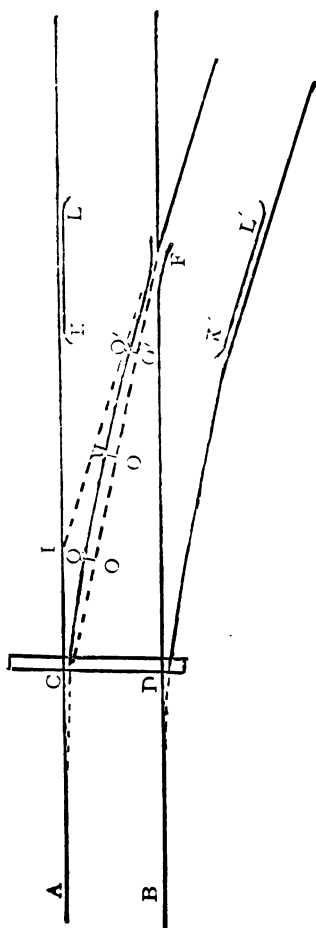
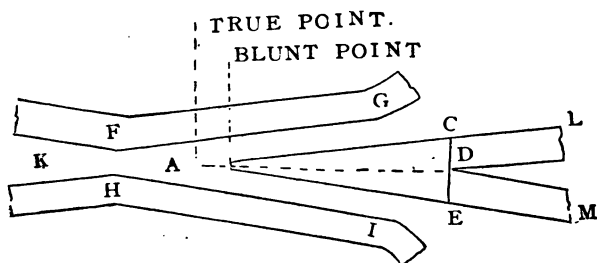

Fig. 8.
Fig. 11.
- 1, TURNOUTS, Fig. 8—2, Laying Switches—3, Split or Point Switches, Figs. 9 and 10—4, To Change a Stub to a Split Switch—5, Description and Table 1—6, Description and Table 2—7, Frogs, Fig. 11—8, Laying Frogs in Track—9, Length of Frogs—10, Guard Rails—11, If there is no Standard—12, Switch Timbers—13, To Cut Switch Ties the Proper Length—14, Tamping Switch Ties—15, Putting in Three Throw Switches—16, A Derailing of Switch, Fig. 12—17, Turnouts From Curves—18, To Reach a Side Track with a Reverse Curve Behind the Frog, Fig. 13—19, Round House Tracks—20, Another Method—21, Fig. 14, Cross over Tracks—22, Table of Distances Between Frogs in Crossover Tracks—23, Parallel Tracks—24, How to Ascertain the Kind of Frog Needed, Fig. 15—25, Spur Tracks—26, To Straighten Rails in Track.
The common or "stub " switch, consists of a pair of connected rails, A C, and B D, Fig. 8, so arranged that while one end is fixed, the other can be moved so as to be a part of either the main track, or turnout. The fixed end is called the "heel, "and is the beginning of the turnout curve. The other end is called the "toe, " and the distance it moves in passing from main track to the turnout rails, is called the "throw. " The toe rests on a large piece of timber, called the "head block, " on which are placed the "head chairs, " and "switch stand. " The rails between the head block and frog, are called "lead rails. " The "total lead, " includes the switch and lead rails, and should be a simple curve considered as joining the two long ends, one of them, IF, is the turnout line of the frog produced, until it intersects the opposite rail, the other I A, is the opposite rail. As two tangents to a curve from any point are equal, I F, and I A. are equal. The length of lead depends on the gauge and frog number, and is equal to the gauge multiplied by twice the frog number. The switch rails are spiked for a certain part of their length, then when they are thrown, the free end will bend to an arc of a circle, and fit the line of lead. K L, and K' L' are called guard rails,
Stretch a cord from point of frog to the toe of switch, see Fig. 8, and mark its center and quarter points. Spike the center to an ordinate of seven inches, and each of the quarters to an ordinate of $5\frac{1}{4}$ inches and you will have the true line of the lead curve.
5. Turnout Table I gives all the data necessary for lay out turnouts, whether single or double, from straight track or curves, and for any frog number. In the first column are given frog numbers, increasing by halves from 5 to 12; the angles corresponding to them in the second column. In the third column will be found the distance, C F, Fig. 8, from point of frog to head block or heel of switch. In the 4th the length of switch rail for a 5 inch throw. Column 5, 6 and 7 show respectively the tangent, radii and degree of curvature. Column 8 and 9 show respectively the middle, and quarter ordinates of the chord, C F, Fig. 8. Column 10 and 11 gives a rate of change in the middle and quarter ordinates per degree of main track curve, and is to be added or subtracted respectively, as the turnout is laid with or against the main track curve. Column 12 gives the distance from head block to middle frog point within throw switches. Column 13 and 14 shows the middle frog angles and their corresponding numbers.
Fig. 11 is an outline diagram of a frog. The triangle, A C E, is tongue. C E is the heel of the tongue. The channel at K is the mouth. Its narrow part, F H, is the throat. The wings, F G, and H I, support the treads of the wheels from the point, B, to the throat. L M is the heel of the frog. The angle is the divergence of the lines, A C and A E. The intersection of the lines at A is the true point of the frog. As this point is too weak for service, it is rounded off where the tongue is about one-half inch wide. The frog number is the ratio of the base, C E, to the perpendicular, A D, the length of the point. Thus, if the length, A D, be 7, 9 or 10 times C E, the frog is called a No. 7, 9, or 10 frog.